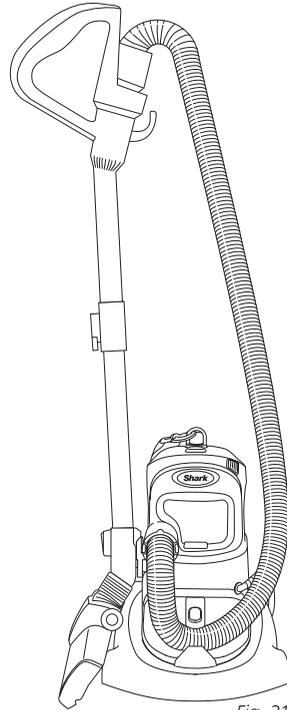

Fig. 21
- 5 Store the telescopic tube attached to the bare floor nozzle in the upright position with the flexible hose attached and hook the flexible hose into the hose dock. (fig. 21)